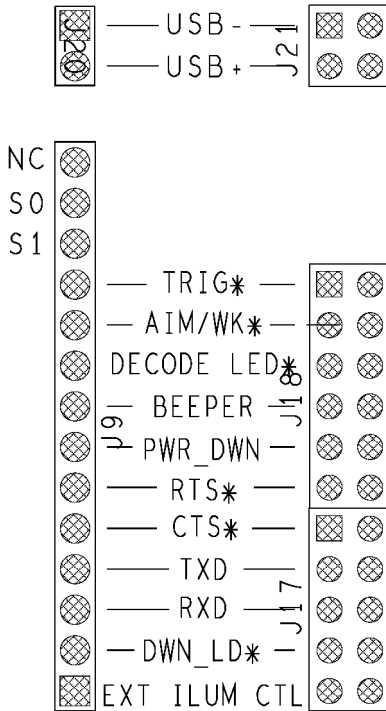

Figure 2-5 Signal Breakout Jumpers
Block four (4) contains multiple jumper pads including J9, J19, J26, J27, J11, J17, J18, J14, and J21 shown in Figure 2-5. These jumpers provide test points for probing all logic signals to and from the engine. This block also functions as a break-out pad so jumpers can be removed and the signal between the engine and the host can be isolated and driven externally by another source.
The break out pads are the dual row headers J17, J18, J14, and J21 from left to right as they appear on the board and in Figure 2-5. The signals mapped to these headers are silk screened between these headers and the single row headers J9, J27, J26, J19, and J20. The single row headers are test points for probing, and are connected directly to the engine signals that propagate from J23/J4/J8. Install the jumpers on the dual row headers to connect these signals to the rest of the board including the board connectors, LEDs, and beeper. Remove the jumpers on the dual row headers to break this connection and access either node of the signal.